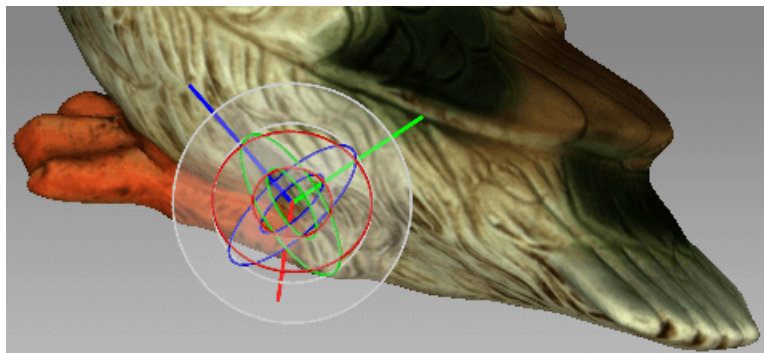

Figure 153: Rotation control
- Drag one of the three circles (see Figure 153) to rotate the object. Hitting the key that corresponds the required axis (X, Y or Z) will hide the controls for the other axes.